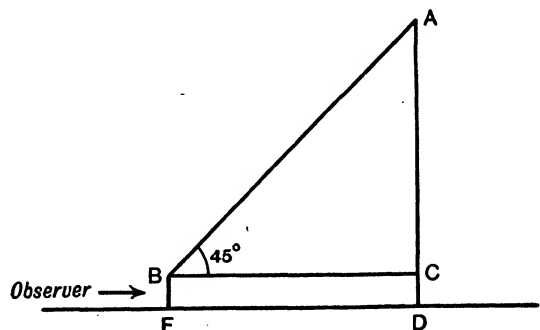

FIG. 70. MEASUREMENT BY 45° SET SQUARE
**I. Sighting by means of a 45° set square.**—This method is not easy. A point is found from which the angle of elevation of the top of the building is 45°. The height of the building is equal to the distance of this point from the foot of the building. The height of the eye of the observer must be added, Fig. 70.